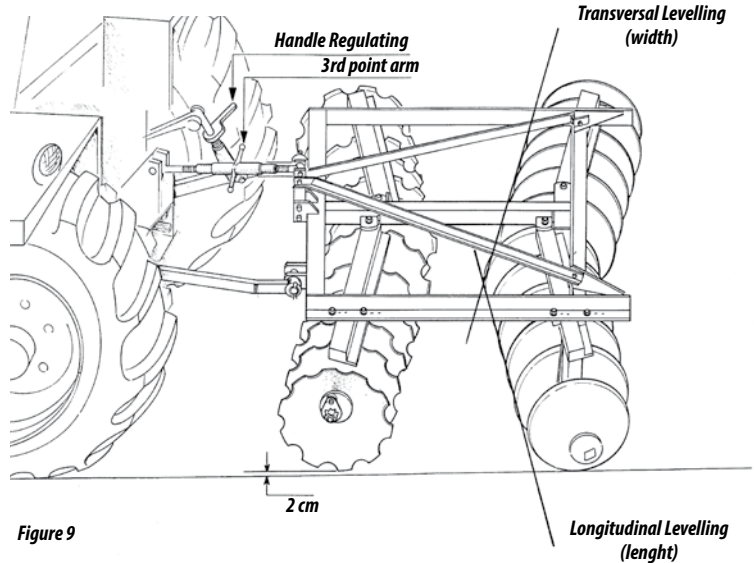

Figure 9
- 01 - 1 - The tractor must be on level ground, then, level the disc harrow in the transverse (width) through the crank of the hydraulic coupling lower right arm as shown in figure 9.
- 02 - 2 - Longitudinal leveling (length) is done through the arm of the 3rd point. Note that the front discs of the disc harrow should be approximately 2 cm above the ground level, as shown in figure 9.